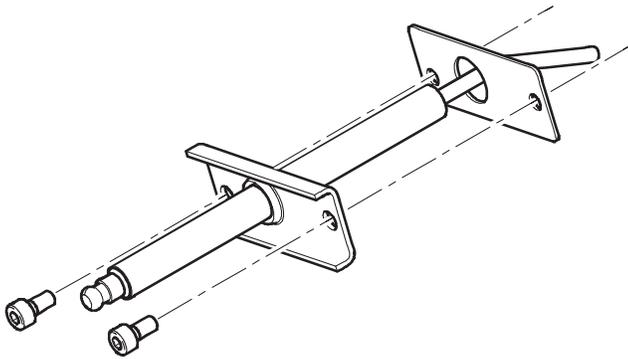

Figure 30: Ionization Electrode (Flame Rod)
- d. Install igniter as shown in Figure 30.